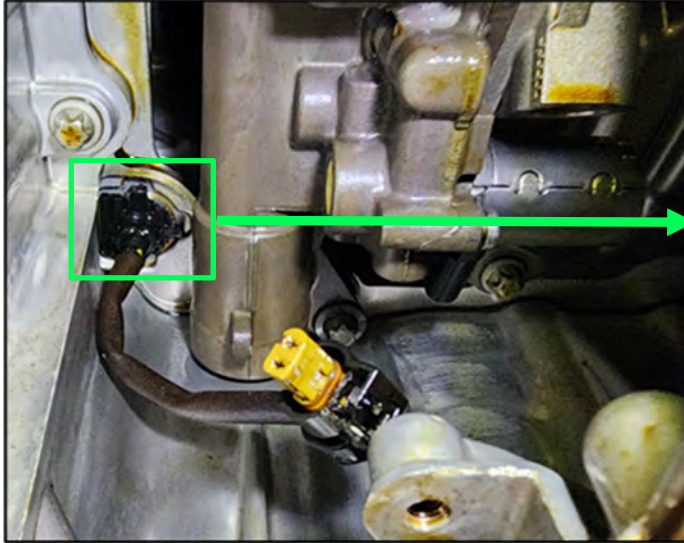
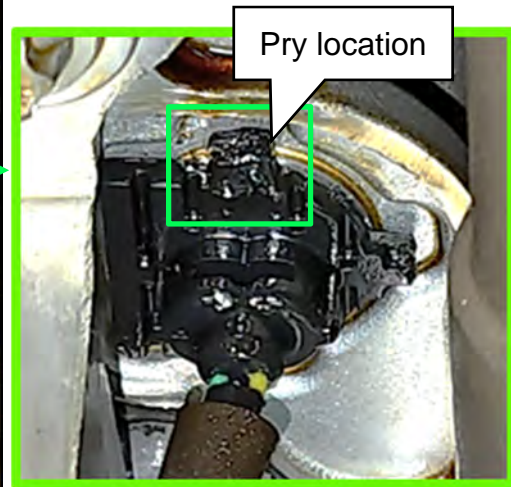

Figure 20
Figure 21
- Using a suitable tool, in the area shown in Figure 20 and Figure 21, apply downward force on the engine side wiring harness connector.